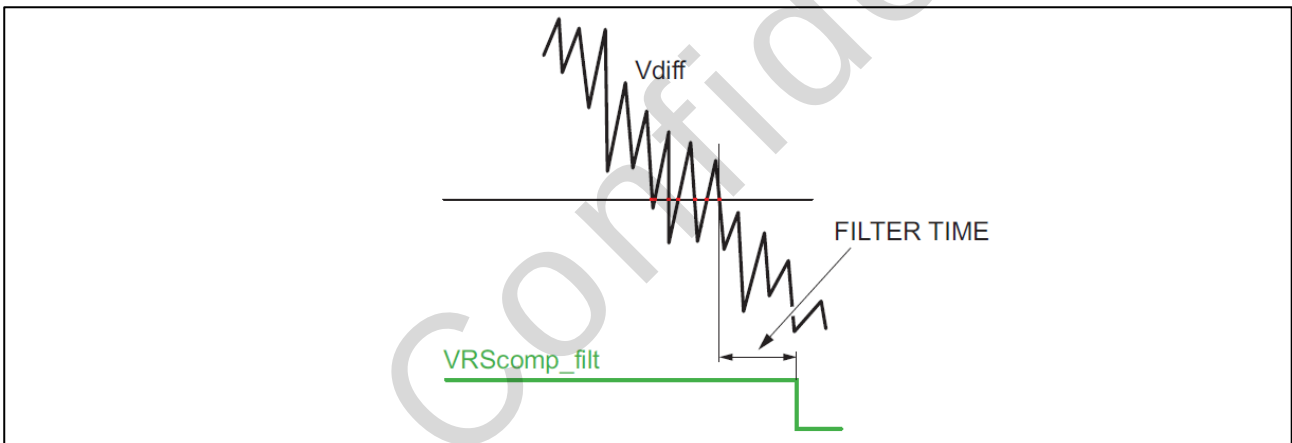

Figure 11-5 *EN\_FALLING\_FILT* = 1
*EN\_FALLING\_FILT* = 1: VRS\_OUT is deasserted when the signal is low and remains stable for at least  $T_{\text{filter}}$ ; see Figure 11-5.